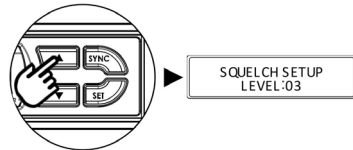

Figure 15
2. Press UP or DOWN button to choose a new level between 1 and 10 (Fig 15).